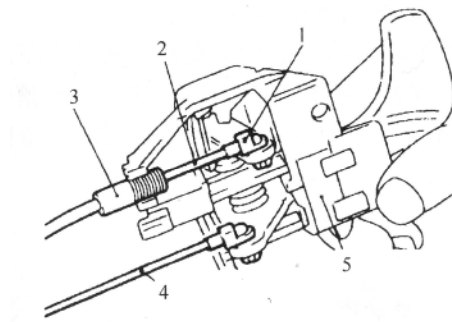

Fig.18-42
(2) When install inner handle, attention of the following: (see figure18-42)